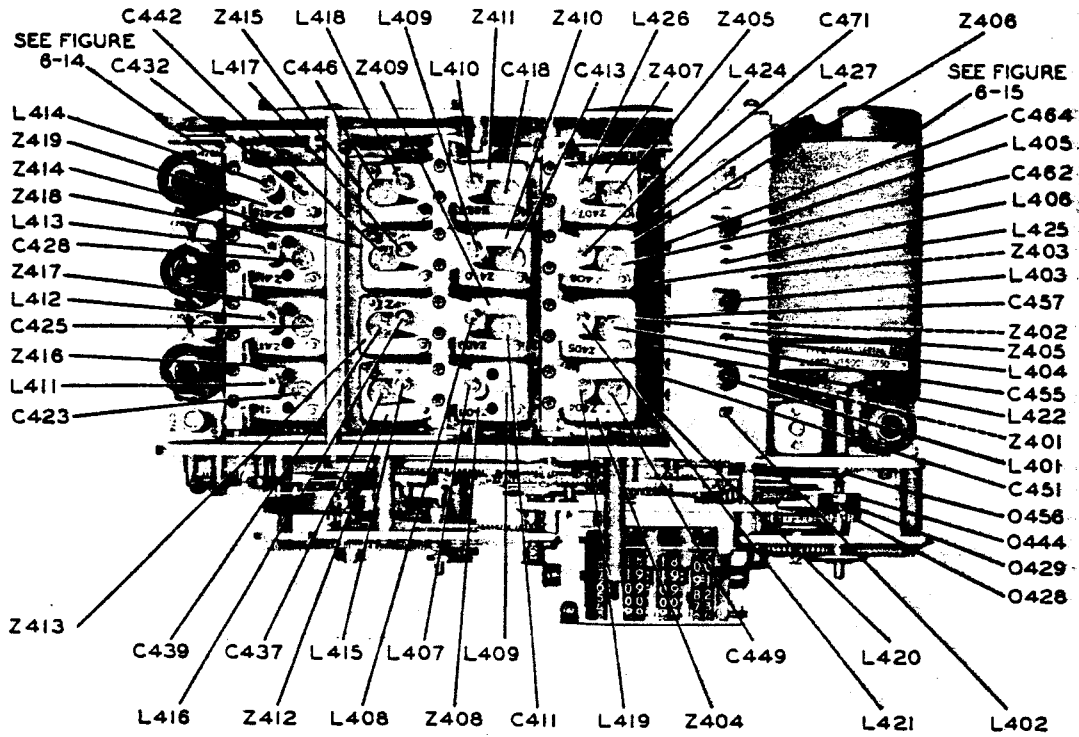

Figure 6-12. R-F and I-F Tuner Assembly, Top View
## 6-61. ADJUSTMENT OF VARIABLE I-F TUNED CIRCUITS. Refer to figure 6-12.
#### 6-62. ADJUSTMENT OF LOW-FREQUENCY POINTS OF R-F TUNED CIRCUITS. Refer to figure 6-12.
- #### 6-63. ADJUSTMENT OF HIGH-FREQUENCY POINTS OF R-F TUNED CIRCUITS. Refer to figure 6-12.
#### 6-64. TRIM ADJUSTMENTS OF R-F TUNED CIRCUITS. Refer to figure 6-12.